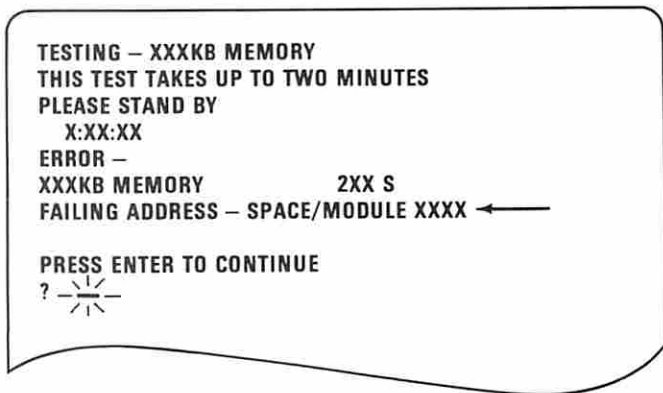

Figure 1. Advanced Diagnostics Error Message
- Note the four-character error code as shown in Figure 1. You will need it for later steps.